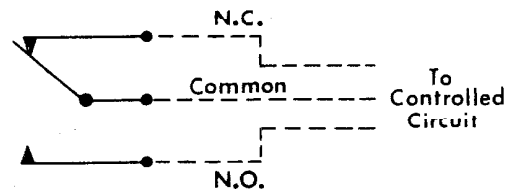

Figure 2. Output Switch Schematic.
2. **WIRING.** Connect leads as shown in Figure 2. The terminals of this switch are marked OPEN and CLOSED, plus a third unmarked COMMON terminal.